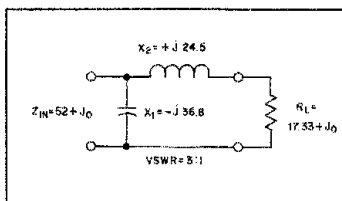

Fig. 2 — Simple L network and reactance values for correcting a VSWR of 3:1.
A simple L network to transform $17.33 + j_0$ to 52 ohms is shown in Fig. 2. The circuit provides an excellent match, but the Q_L turns out to be only 1.7, thus ensuring relatively little harmonic attenuation.
Fig. 2 — (A) A simple NC/NO push-button switch makes a convenient key on the SWR indicator. Push-button action gives a momentary on for the "tune" position. (B) and (C): A dpdt switch can perform the same function.
amplifier can be disconnected simultaneously (see Fig. 2).